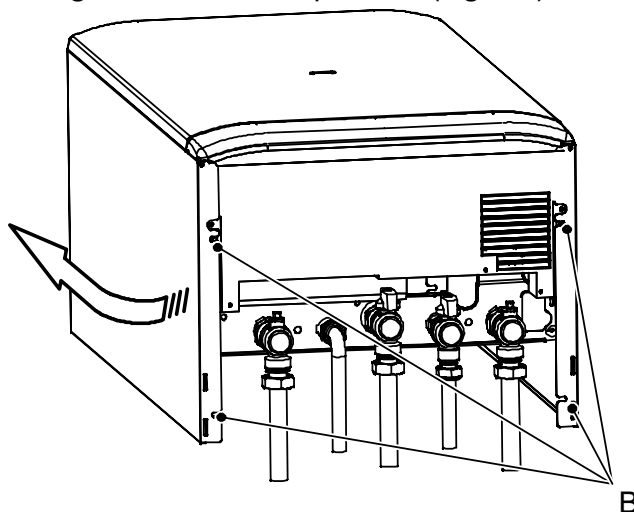

Fig. 9.2
- 3 Loosen the screws B. Bring the bottom of the panels away from the boiler and lift them, freeing them from the top hooks (Fig. 9.2).